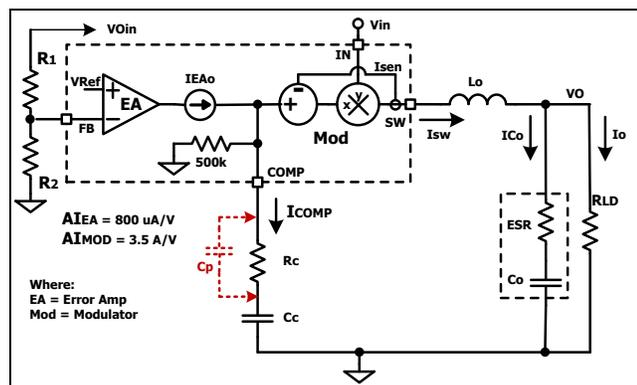

Figure 2: Internal Gain Blocks
Figure 2 shows a diagram of the XRP7664 internal gain blocks. The total loop includes the feedback divider (DIV) created by R1 and R2, Error Amp (EA), Modular (MOD), and output filter. Since the error amp is a transconductance amplifier its output voltage will be a function of IEAo and the impedance from its output to ground. Please note that this includes its internal 500k $\Omega$  ( $R_{LIM}$ ) impedance.